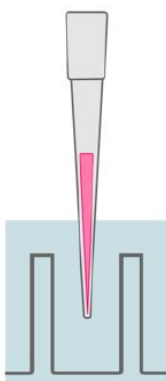

Figure 3. Step 5 – submerging pipette tips in the well [3]
- Submerge pipette tips into the well before dispensing PCR product (Figure 3)